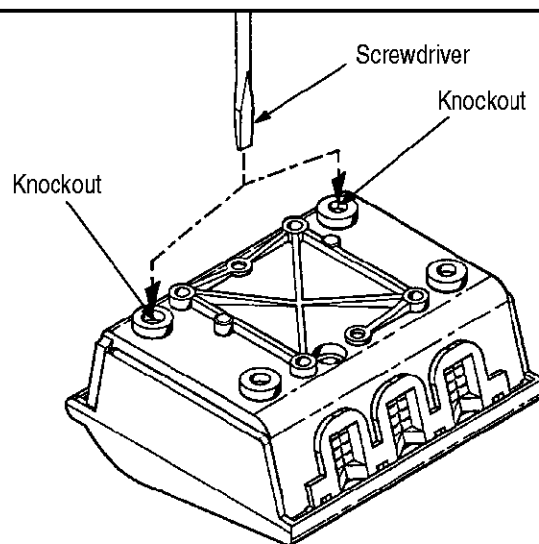

Figure 6
2. Use a screwdriver to punch out the 6.4 mm [1/4 in.] knockouts in the left and right corners of the terminal base (closest to the hinge). See Figure 6.